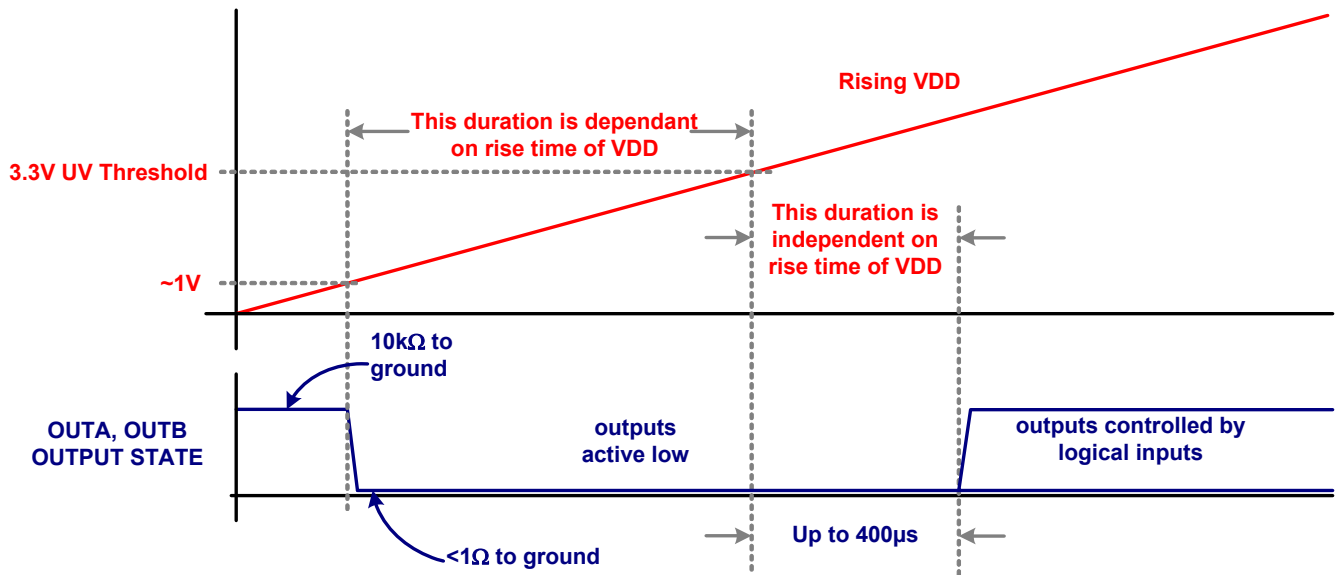

FIGURE 9. START-UP SEQUENCE
- A 400 $\mu s$  delay further inhibits the release of the output state when the UV positive going threshold is crossed. See Figure 9.
The start-up sequence for is designed to prevent unexpected glitches when  $V_{DD}$  is being turned on or turned off. When  $V_{DD} < \sim 1V$ , an internal  $10k\Omega$  resistor connected between the output and ground, help to keep the gate voltage close to ground. When  $\sim 1V < V_{DD} < UV$ , both outputs are driven low while ignoring the logic inputs. This low state has the same current sinking capacity as during normal operation. This insures that the driven FETs are held off even if there is a switching voltage on the drains that can inject charge into the gates via the Miller capacitance. When  $V_{DD} > UVLO$ , and after a  $400\mu s$  delay, the outputs now respond to the logic inputs. See Figure 9 for complete details.